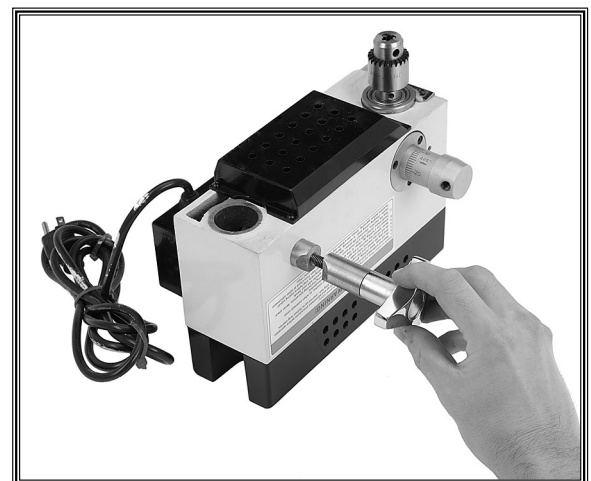

Figure 7. Installing the column lock knob.
3. Insert the column lock knob assembly into the headstock, as shown in **Figure 7**.